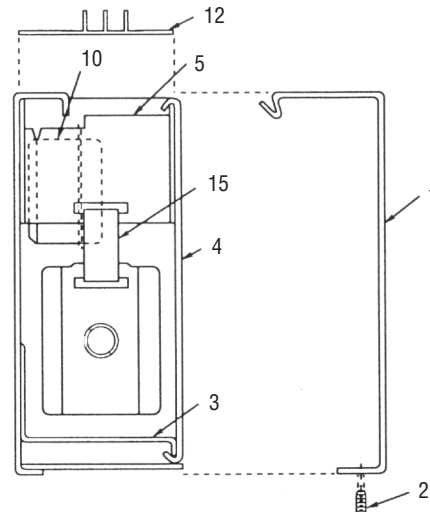

Figure 1
11. When mounting heater, use care to secure heater to building structure and avoid damaging internal heater components. Do not remove grille during installation as this could reposition or damage the internal factory wiring, see Figure 1, Item 12.
NOTE: Do not remove grille (12, Figure 1) during installation.